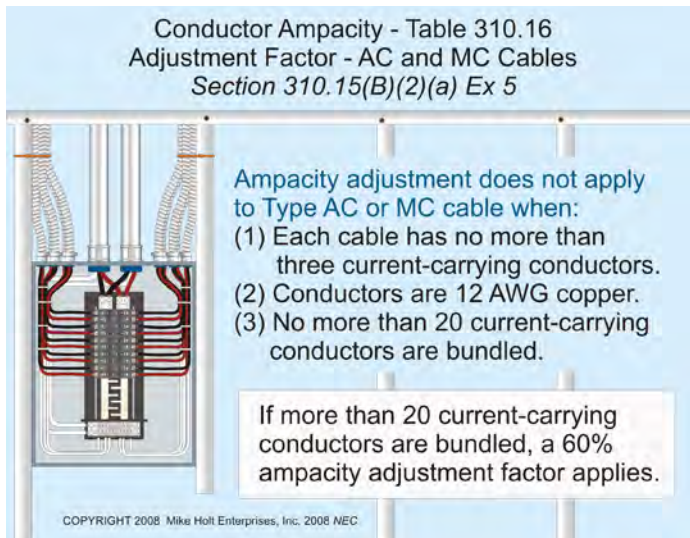

Figure 310–13
*Exception No. 5: The conductor ampacity adjustment factors of Table 310.15(B)(2)(a) don't apply to Type AC or Type MC cable when: **Figure 310–13***